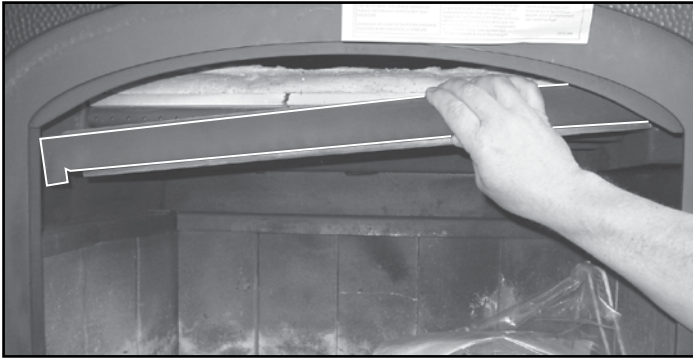

Figure 31.1 Removing Baffle Protection Channel
2. Remove the baffle protection channel by turning it down and pulling it out of the firebox. See Figure 31.1.